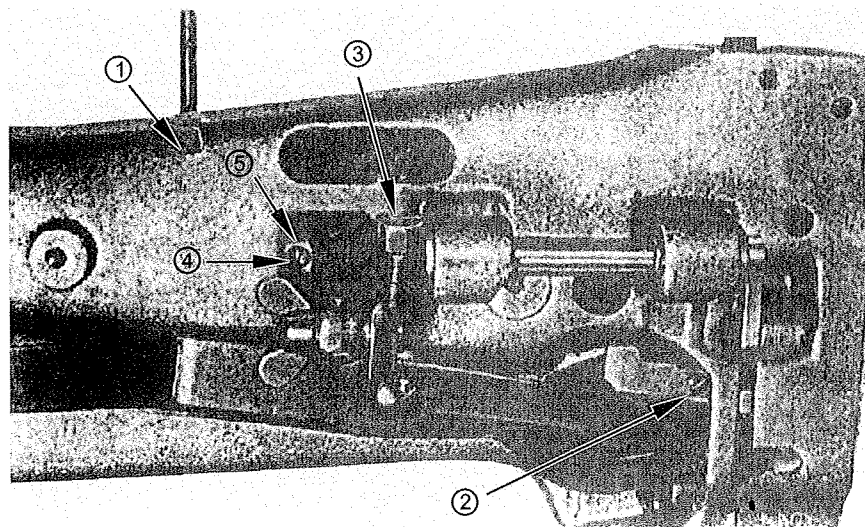

Fig. 23
Loosen the screw (①, Fig.23) sufficiently, raise the presser bar lifter and loosen the set screw (②, Fig.23). Move the lifting presser foot (A, Fig.7) up or down as may be required so as to get the correct height and tighten the screws.
To adjust this, lower the presser bar lifter, holding the vibrating presser foot (B, Fig.7) and loosen the hexagon screw (③, Fig.23) and move the presser foot up or down as may be required. After setting the position, tighten the screw.
To adjust this, set the lift of thre alternating presser feet to equal, loowen the two screws (④, Fig. 23) and adjust the rotating position of the cam (⑤, Fig.23) faster or slower as may be desired, and tighten the screws.